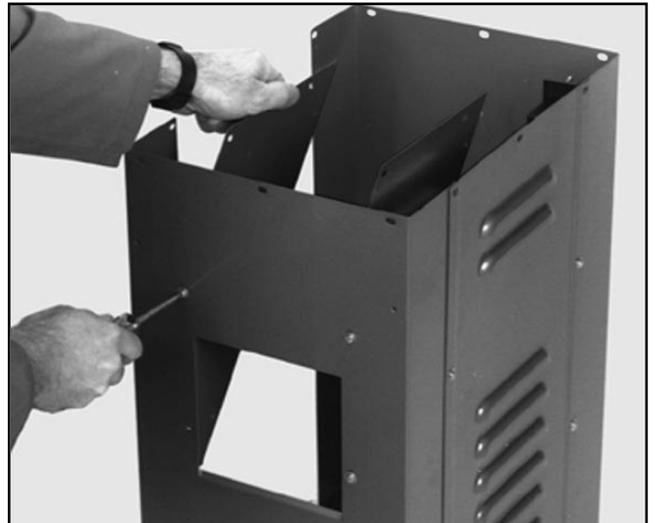

Figure 3. Attaching the dust chute.
2. Mount the two dust chute sides to the dust chute end as shown in **Figure 3.** Note that the flanges are pointed away from the inside of the chute. Do not fully tighten the screws yet.